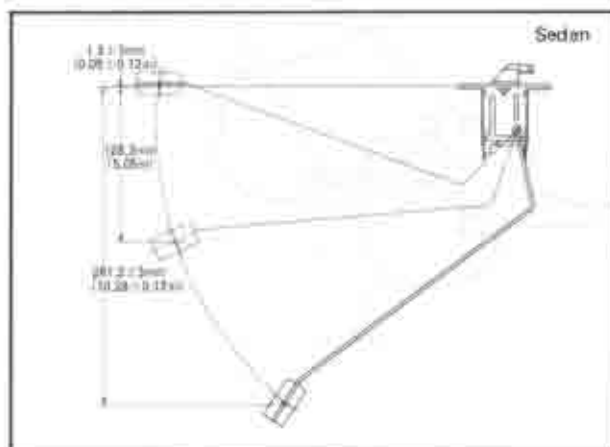

Fig. 15-10 Adjusting unit arm
a) Move arm until reading concurs with standard resistance value indicated in Fig. 15-10 or 11, and check height of float at that time (horizontal distance